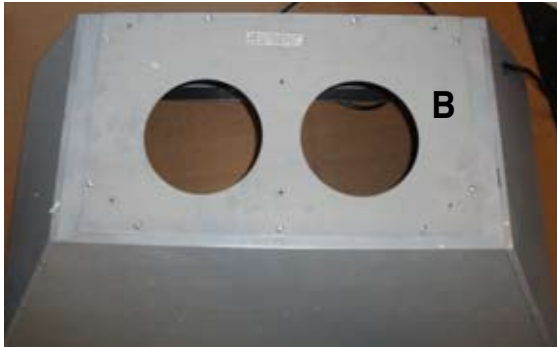

FIGURE 14
1. Install the Plate B (FIGURE 14) which came with the internal blower kit, on top of the rangehood with the holes located closer to the front. Use 9 screws supplied with the blower kit